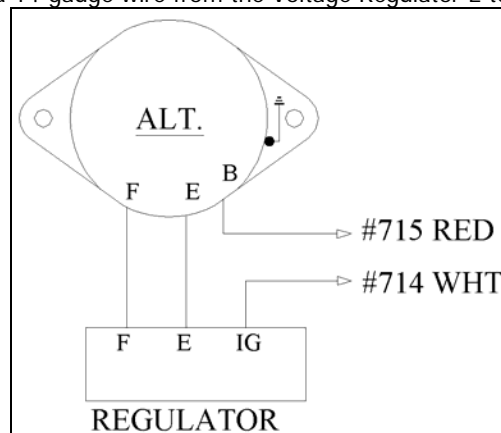

Figure 8-1 Toyota Alt. Diagram (early- 1977)
8.1 Toyota Alternator (early- 1977) See Figure 8-1
*Note: Your Alternator may not appear exactly as represented in **Figure 8-1**. The circuits are wired the same way, though.*